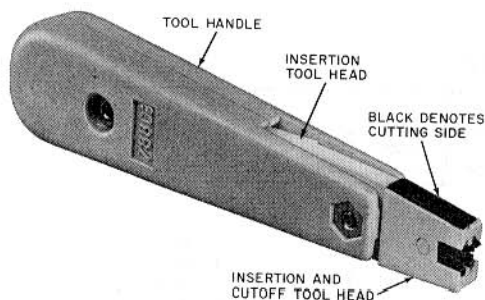

Fig. 12—788D-Type Tool, Single-Pair Insertion/Cutoff
2.17 The single pair insertion tool ♦(788D4)♦ is supplied as a combination of the handle and insertion head. The reversible ends of the head provide either insertion/cutoff or insertion only (Fig. 12) of a single cable pair.